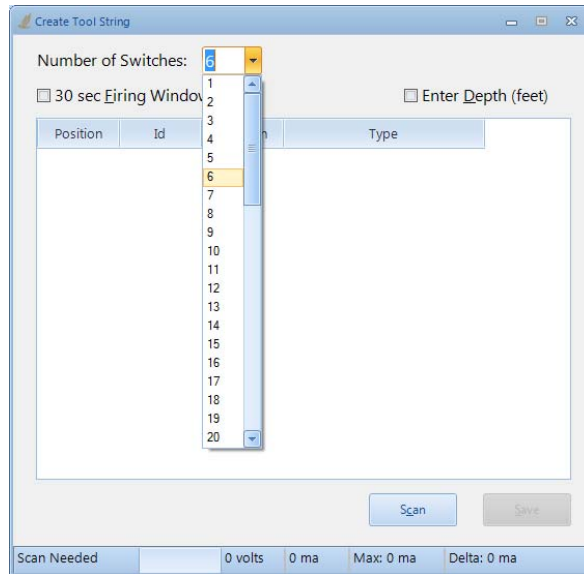

Figure 19
4. Use the **Number of Switches** dropdown to select the number of switches in the string as shown in Figure 19.